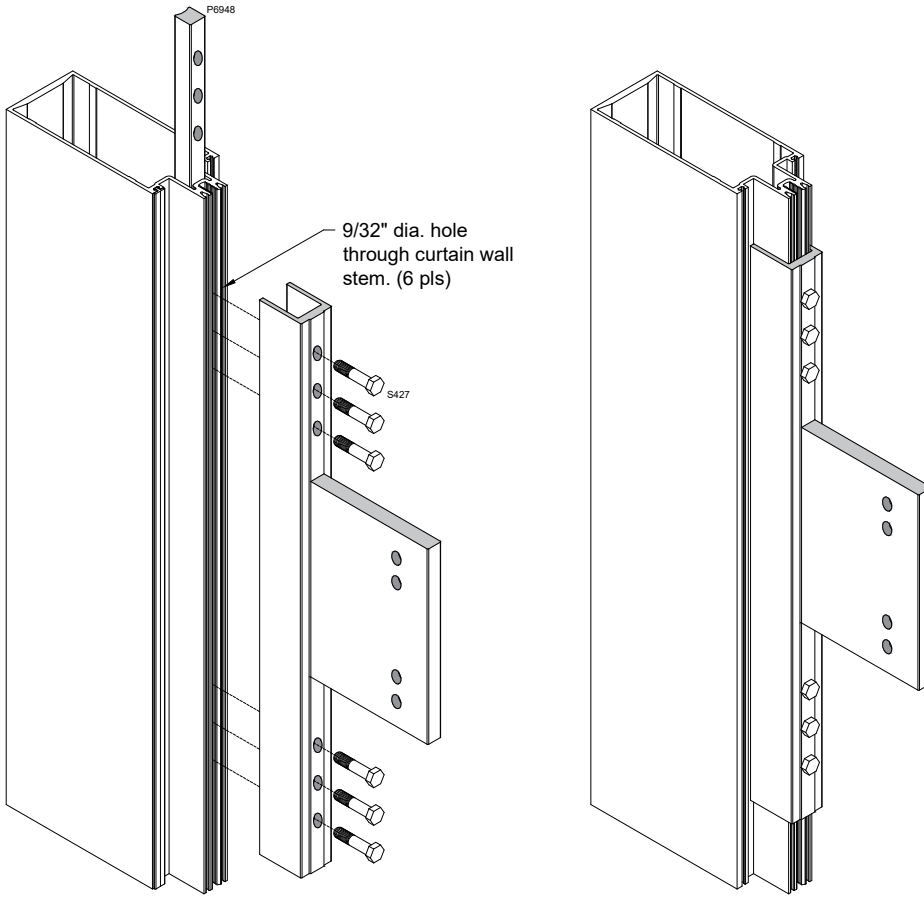

FIG. 12.2
- 2) Install P6942 sun shade bracket and P6948 backer bar and secure to curtain wall using S427 fastener. Fig. 12.2.